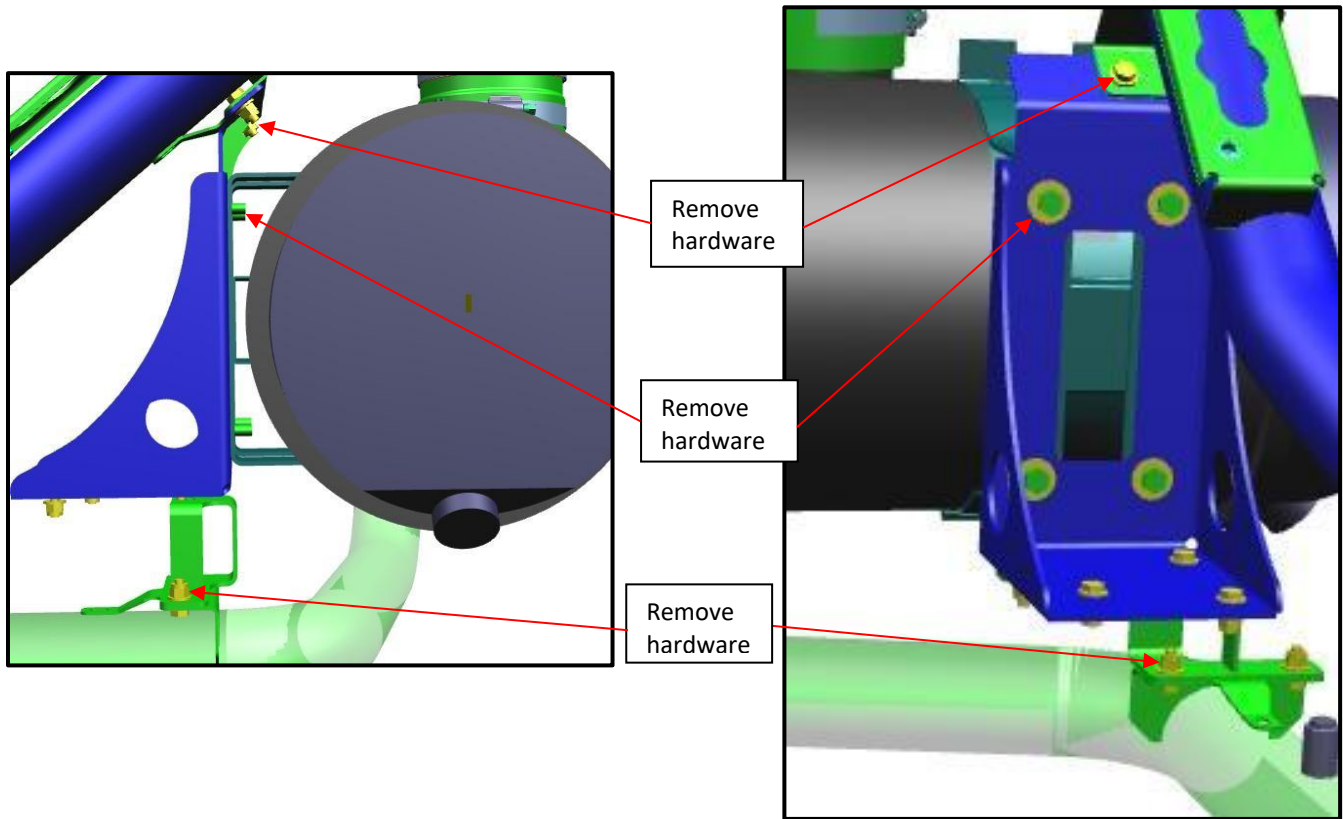

Figure 7: Air filter mounting and tube support bracket location reference
13. Remove the bolts and washers from the air filter mounting brackets on the side of the air cleaner assembly. See figure 7.